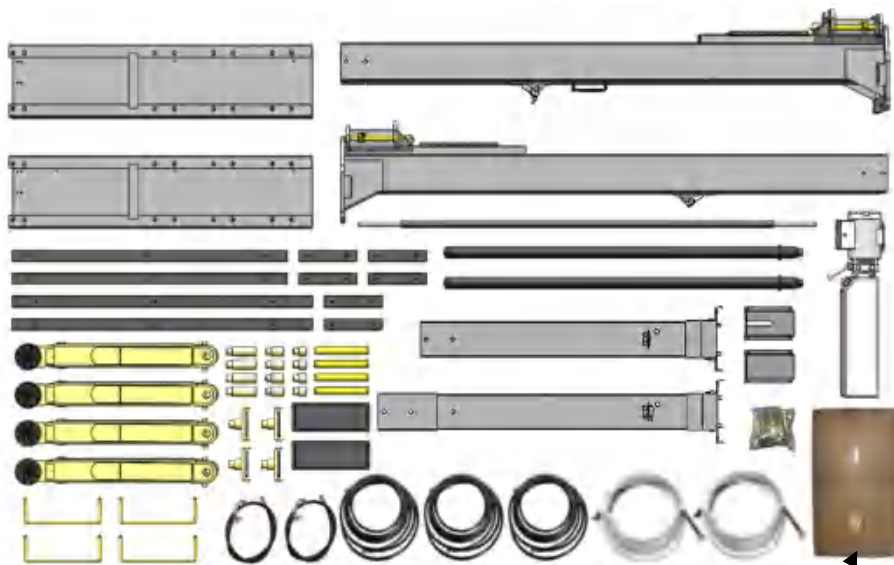

Fig. 15
6. Move aside the parts and check the parts according to the parts list. (See Fig. 15 & 16)